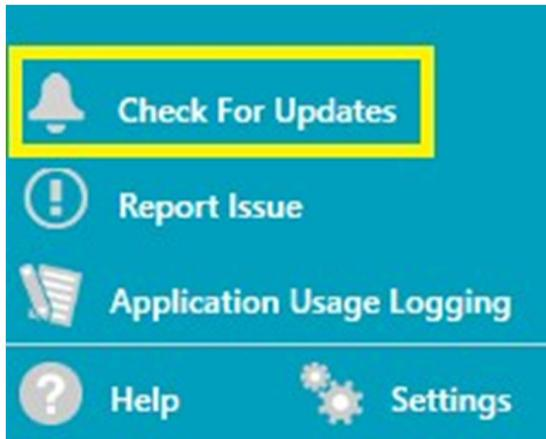

Figure 21. Check for Updates in the ACE Sidebar
1. Download and install the ACE software tool from the ACE download page, as per the Installing the ACE Evaluation Software section. If ACE is already installed, make sure you have the latest version by using **Check For Updates** option in the ACE sidebar, as shown in Figure 21.